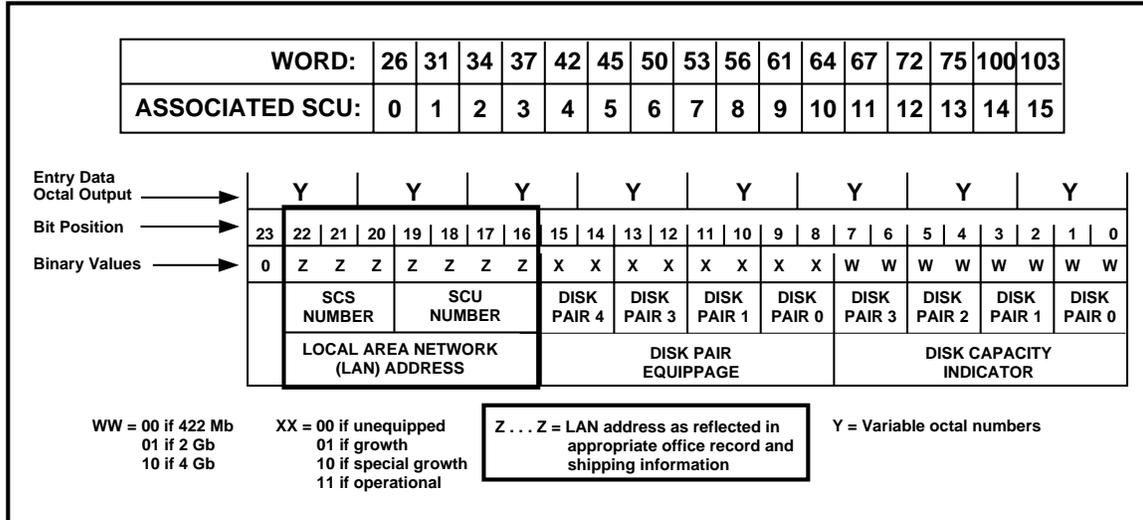
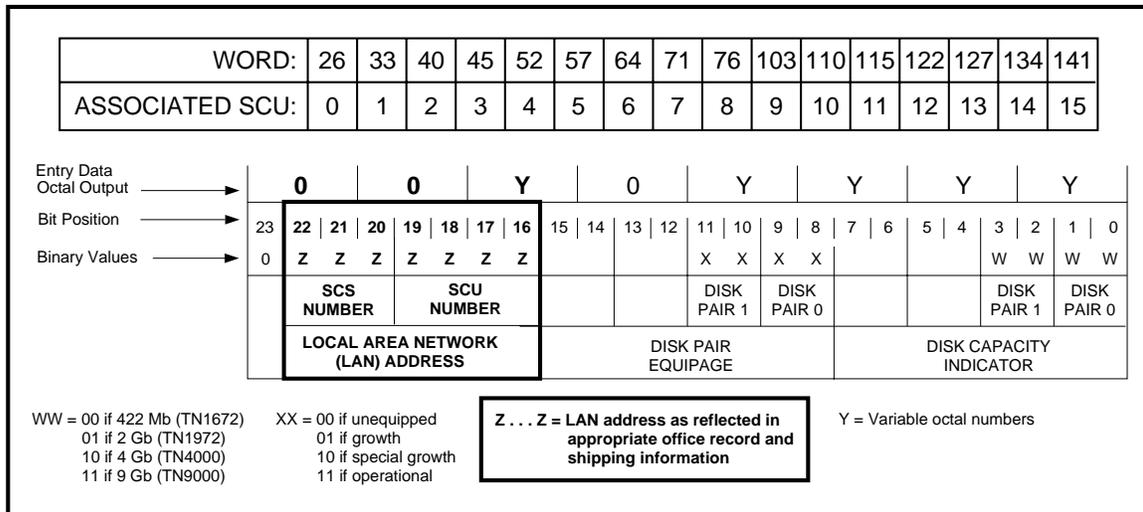

Figure 3. Words in SCS Unit Type Translator Used to Determine LAN Address (4E20)
Figure 4. Words in SCS Unit Type Translator Used to Determine LAN Address (4E21 and later)
- Using the TTY output and Figure 3 (4E20) or Figure 4 (4E21 and later), verify the LAN address for the desired SCU, and note any discrepancies (the LAN address should be the SCS member number multiplied by 16, plus the SCU number).